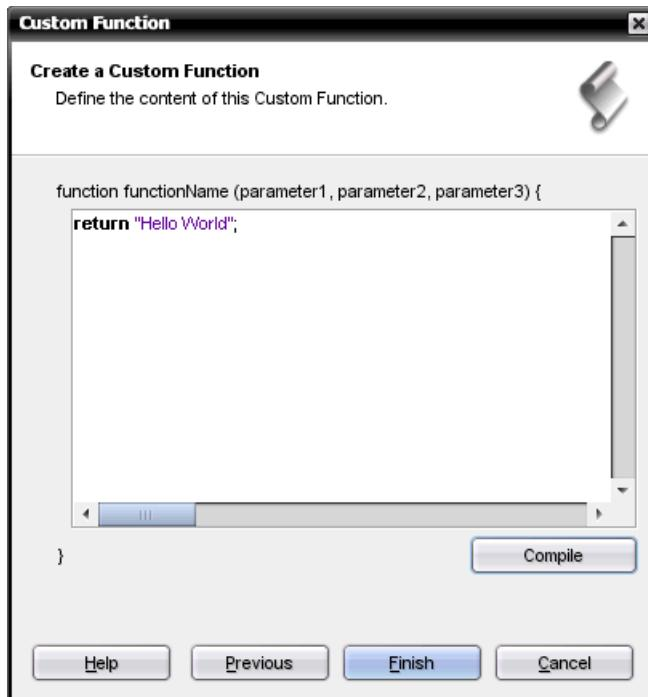

Figure 3-59 Entering the contents of a custom function in to the wizard
4. Click **Next**. The wizard shows a window with a text entry field. Enter the contents of the JavaScript function in to the text field. The function declaration and the opening and closing braces are provided automatically. Figure 3-59 shows the contents of a custom function entered in to this window.